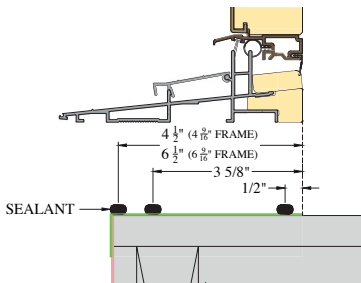

FIG. 18: 4-9/16" & 6-9/16" INSWING PATIO DOOR SILL
- a. Apply three 1/4" continuous beads of silicone across the entire width of the rough opening. (Fig. 18) shows the silicone location for a 4-9/16" and 6-9/16" inswing door: The bead location will be different for other jamb sizes. (Fig. 18)